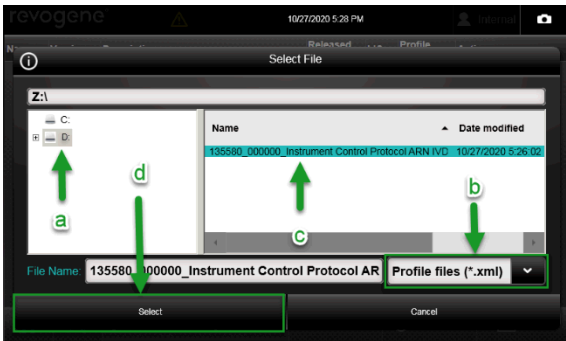

Figure 9. Instrument Control Protocol (.xml) Selection Window
- d. Tap on the <Select> button. (Figure 9)